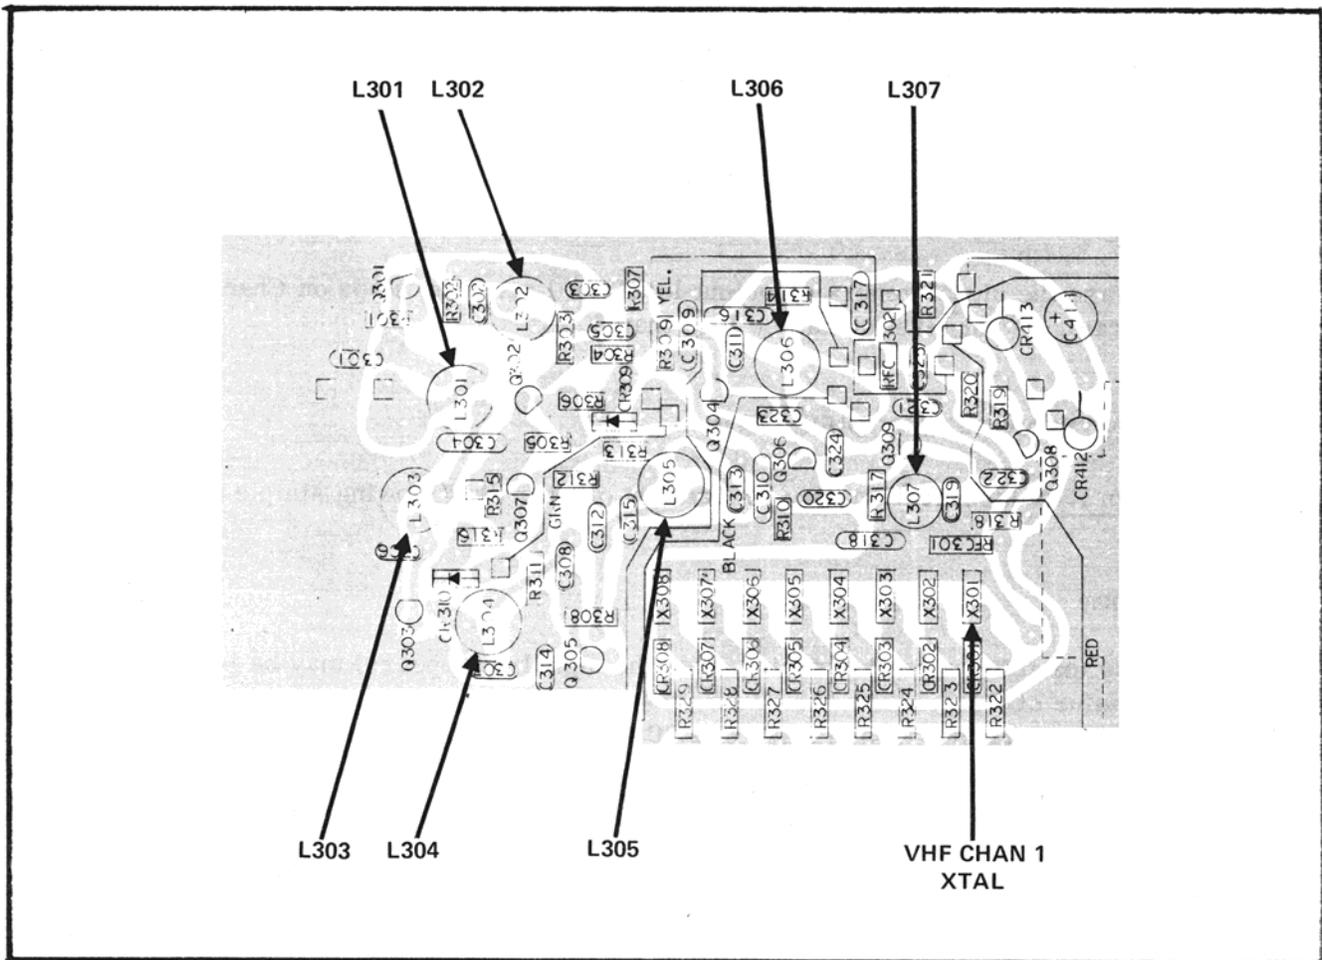

Figure 5-3. Main Board Tuning and Connecting Points for High and Low VHF Band Alignment
7. Adjust L203 (Figure 5-2) and L306 (Figure 5-3) for maximum indication on AC VTVM.
1. Install desired channel crystal in Channel 1 position (Figure 5-3) and set Channel 1 band switch (on rear panel) to HIGH position.
6. Tune L307, L305, L304, and L303 (Figure 5-3) for maximum indication on RF voltmeter. Reduce signal generator level as required to maintain approximately 0.3 volts on RF voltmeter during tuning.
1. Install desired channel crystal in Channel 1 position (Figure 5-3) and set Channel 1 band switch (on rear panel) to LOW position.
6. Tune L301 and L302 (Figure 5-3) for maximum indication on RF voltmeter. Reduce signal generator output level as required to maintain approximately 0.3 volts on RF voltmeter during tuning.